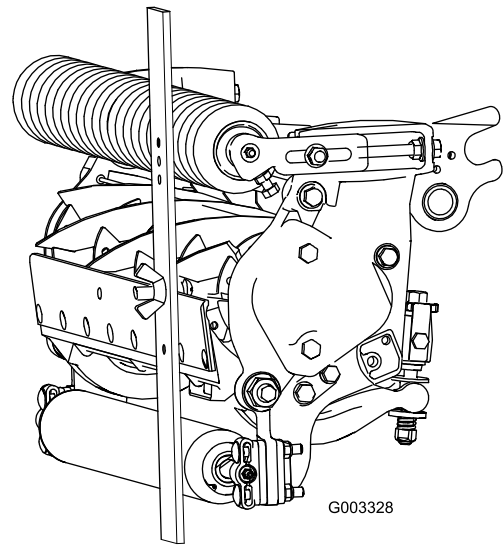

Figure 24
3. Hook the screw head on cutting edge of bedknife and rest rear end of bar on rear roller (Figure 24).
4. Rotate the adjusting screw until the front roller contacts the gauge bar (Figure 24). Adjust both ends of roller until entire roller is parallel to the bedknife.